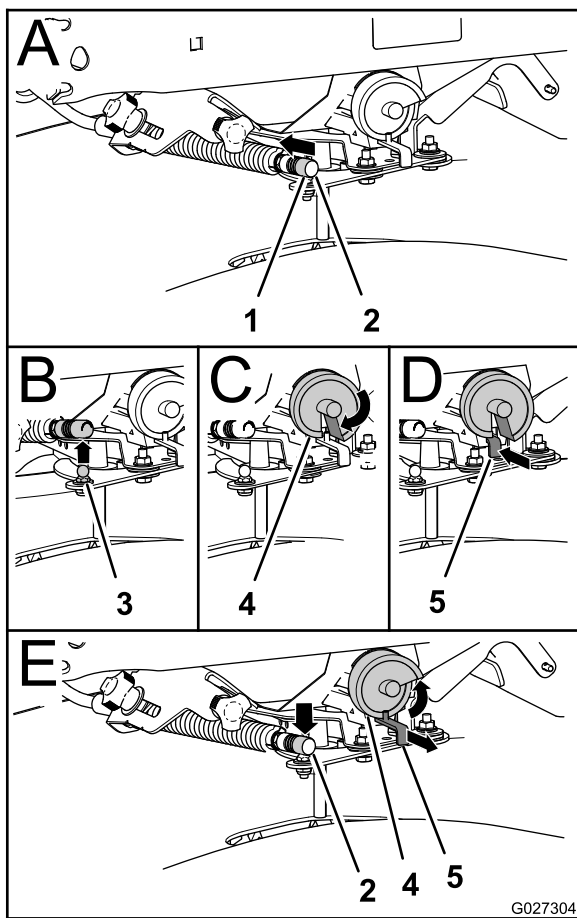

Figure 32
1. Push the locking sleeve for the gate cable rearward and lift the cable up from the ball stud of the rate-gate linkage (Figure 32).
1. Pull the linkage out until it clears the drop-rate cam (Figure 32).
3. Attaching the cable to the ball stud at the gate lever(Figure 32).
2. Pull the cable off the ball stud (Figure 32).
3. Rotate the drop-rate cam past position-9 so that the slot in the cam aligns with the linkage (Figure 32).
4. Fully push the rate-gate linkage rearward (Figure 32).